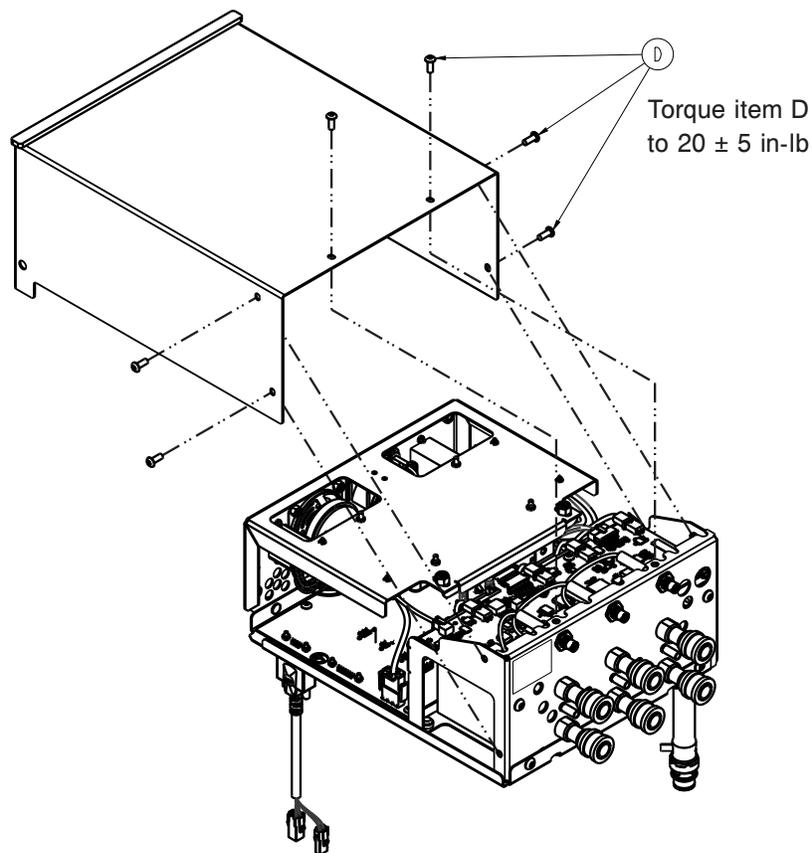

Figure 28 – Control box cover
6. Using a T25 Torx driver, remove the six screws (D) from the control box cover (Figure 28). Save the screws.